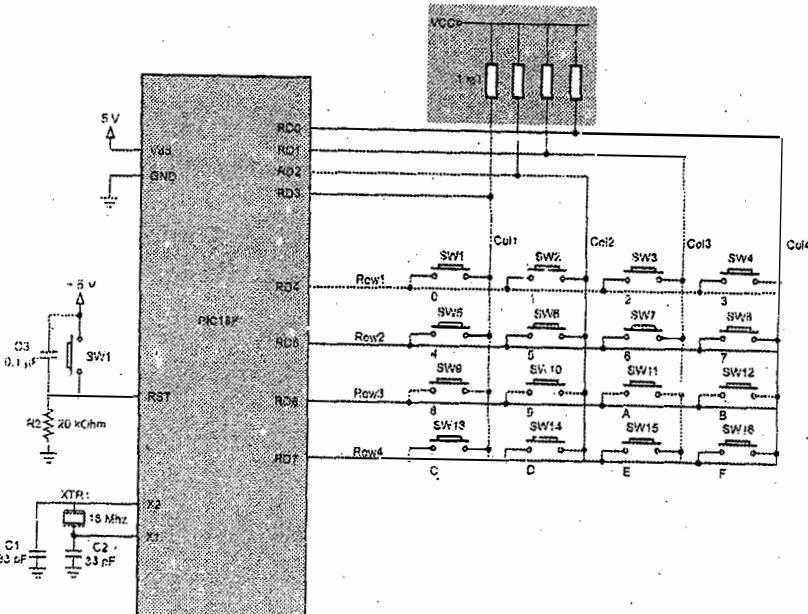

Fig. Q.8.1 Keyboard interfacing
**Ans. : Keyboard interfacing :** The interfacing diagram of  $4 \times 4$  matrix keyboard is shown in Fig. Q.8.1. The microcontroller accesses both rows and columns through the port D.